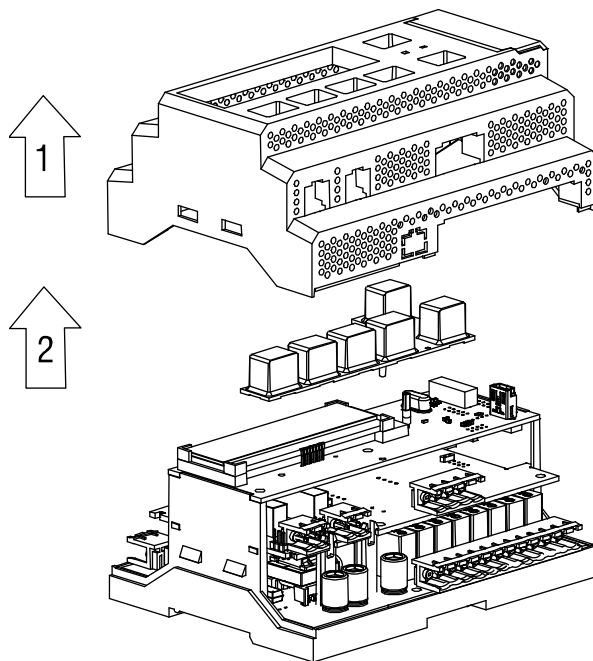

Fig. F.1 Front cover removing
1. Remove the front cover with the keypad (Fig. F.1)